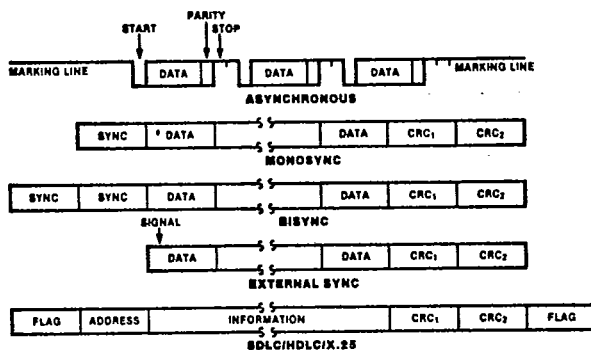

Figure 3. Some SCC Protocols
**Data Communications Capabilities.** The SCC provides two independent full-duplex channels programmable for use in any common Asynchronous or Synchronous data communication protocol. Figure 3 and the following description briefly detail these protocols.